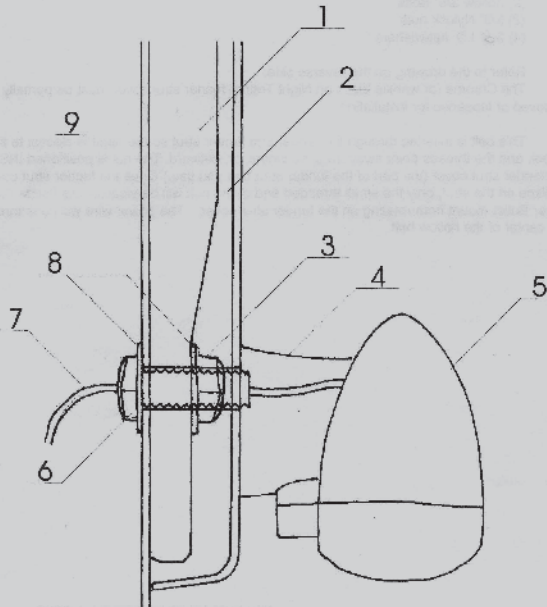

FIG.1
STEP 2 See FIG. 1 for Softails and FIG. 2 for Dyna Models. The line drawings show how the respective anti-Rotation devices are installed.